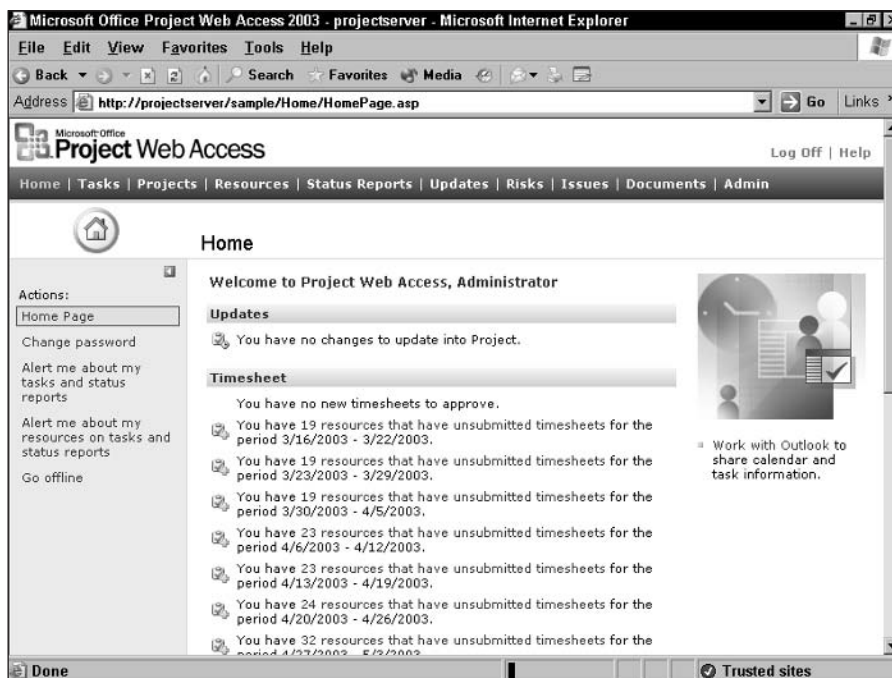

Figure 18-35: The opening page in Project Web Access after logging on as the Administrator.
Log on to the Project Server database using Administrator as the User name, and provide the password that you supplied when you installed Project Server (see Step 19 in the section “Installing Project Server,” earlier in this chapter). You see the opening page of the Project Server database (see Figure 18-35).
1. Click the Admin tab (refer to Figure 18-35).